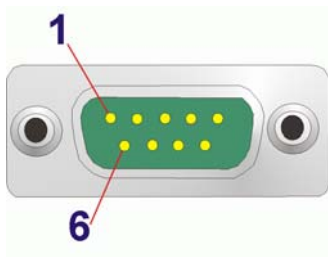

Figure 4-22: RS-232 Serial Port Pinout Locations
- CN Pinouts:** See Table 4-23 and Figure 4-22